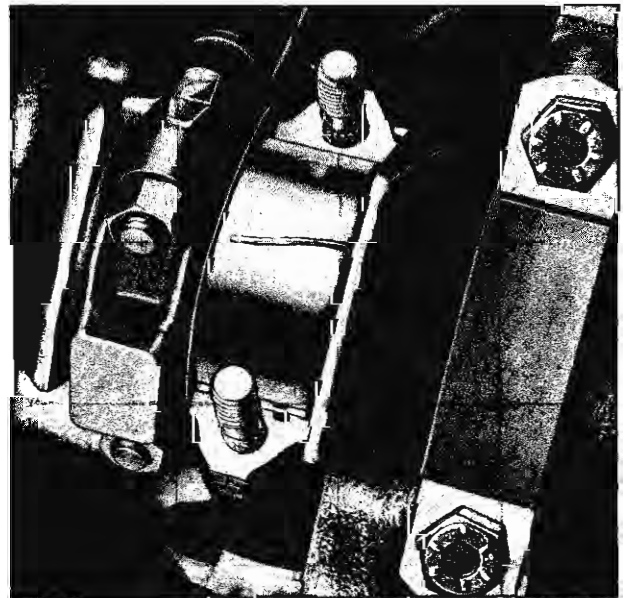

Fig. 177—Plastigage on Crankpin
3. Place a piece of Plastigage the full width of the bearing or crankpin (parallel to the crankshaft) (fig. 177).